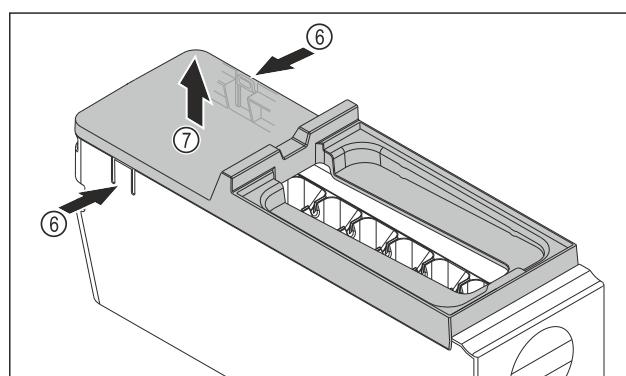

Fig. 166
► Removing the cover of the EasyTwist-Ice body: With one hand, press the tabs Fig. 166 (6) on both sides of the EasyTwist-Ice body.
► With the other hand, remove the cover Fig. 166 (7) upward.